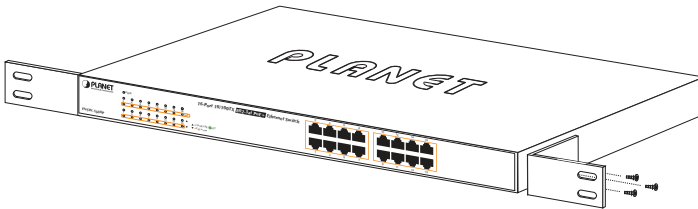

Figure 5-2: Attaching the Brackets to the Switch.
Step 2: Attach a rack-mount bracket to each side of the Switch with supplied screws attached to the package. Figure 5-2 shows how to attach brackets to one side of the Switch.